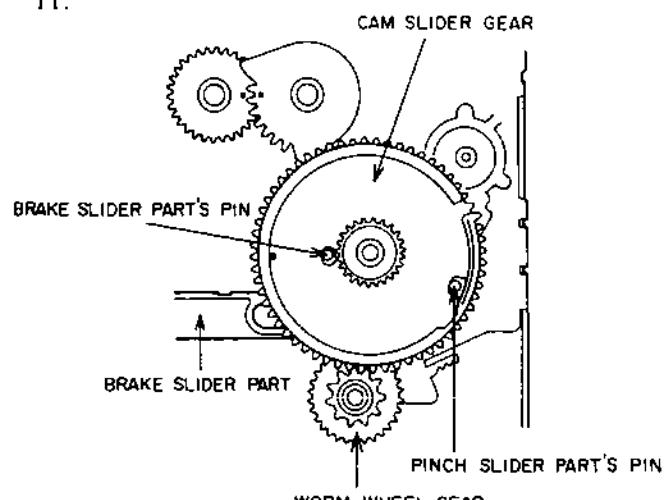

Fig. 4-11
- 1) Attach the WORM WHEEL GEAR as shown in Fig.4-11.
- 2) Set the CAM SLIDER GEAR. At this time, adjust the position of the BRAKE SLIDER PART and PINCH SLIDER PART so that both pins appear through the holes on the CAM SLIDER GEAR as shown in Fig.4-11.